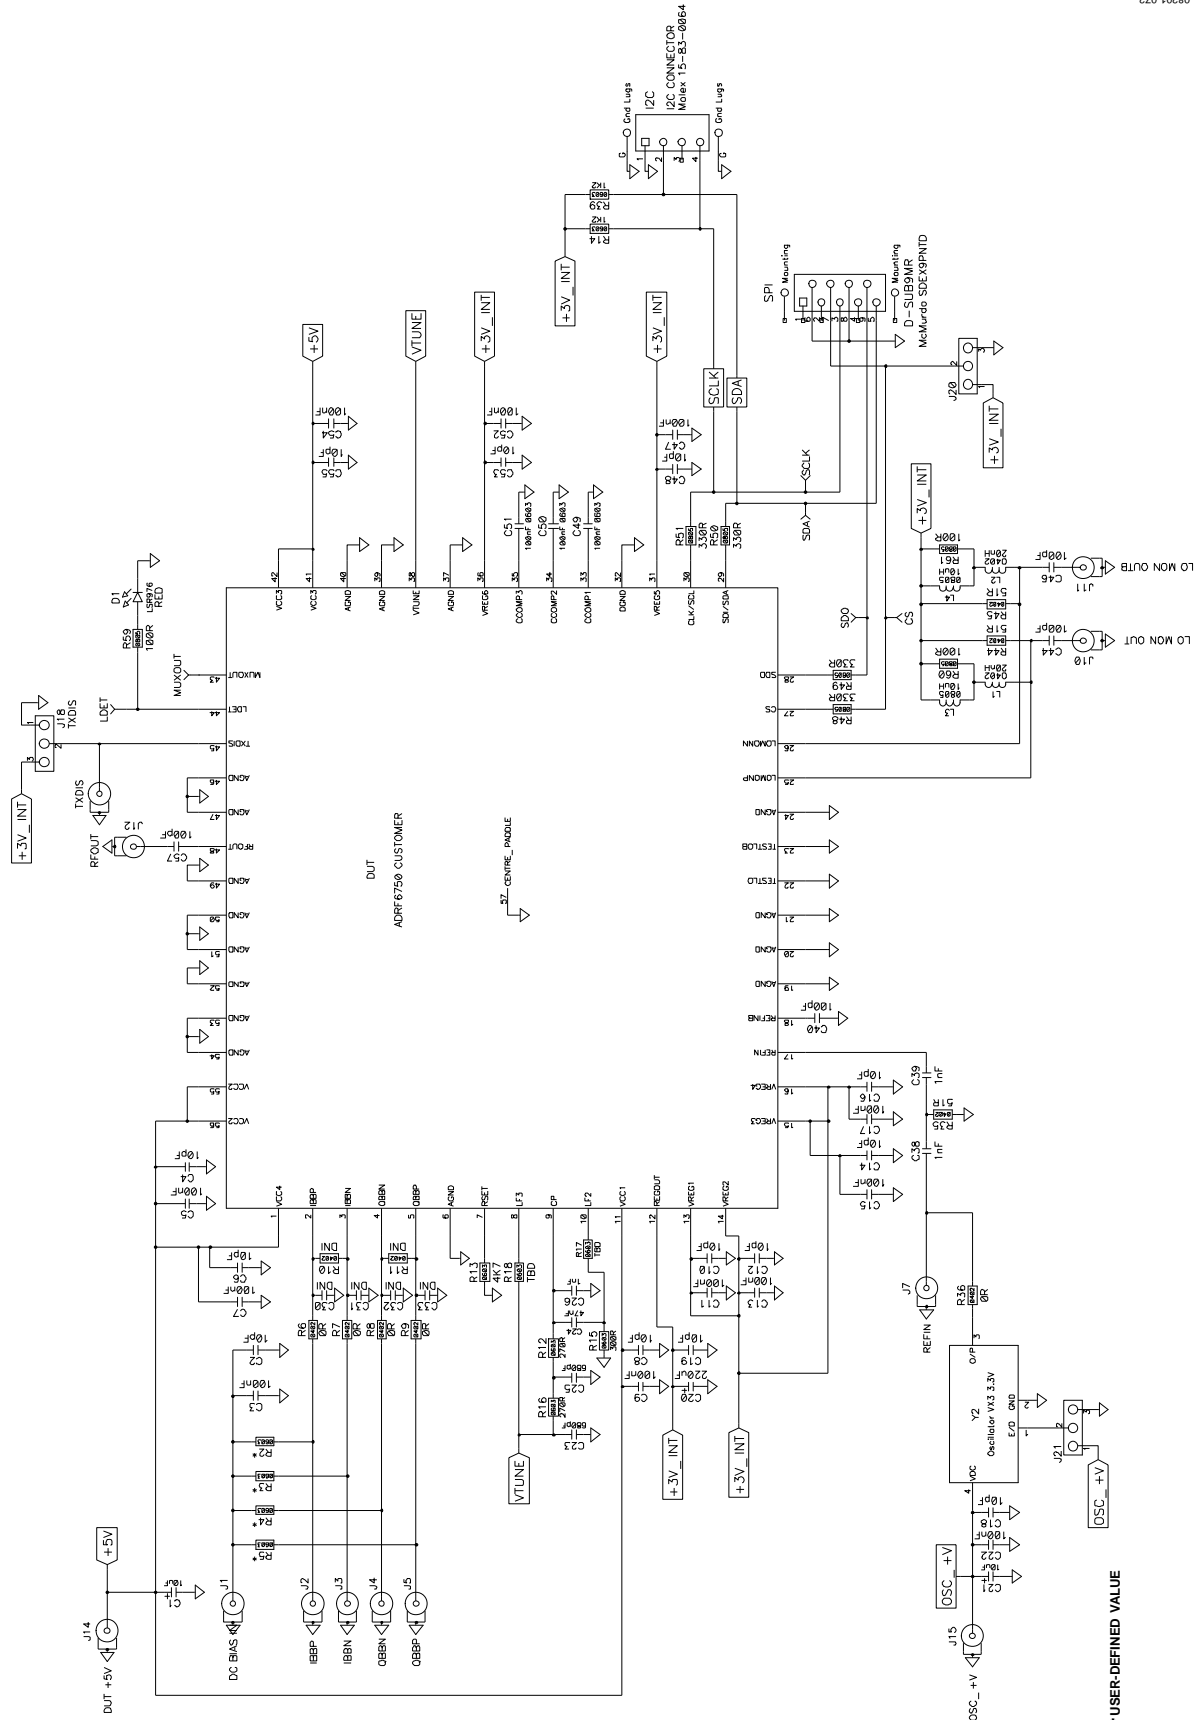

Figure 71. Applications Circuit Schematic
22. Write Register CR9: 0x70. With the recommended loop filter component values and $R_{SET} = 4.7 \text{ k}\Omega$, as shown in Figure 71, the charge pump current is set to 2.5 mA for a loop bandwidth of 50 kHz.
For more information, refer to the circuit diagram in Figure 71.